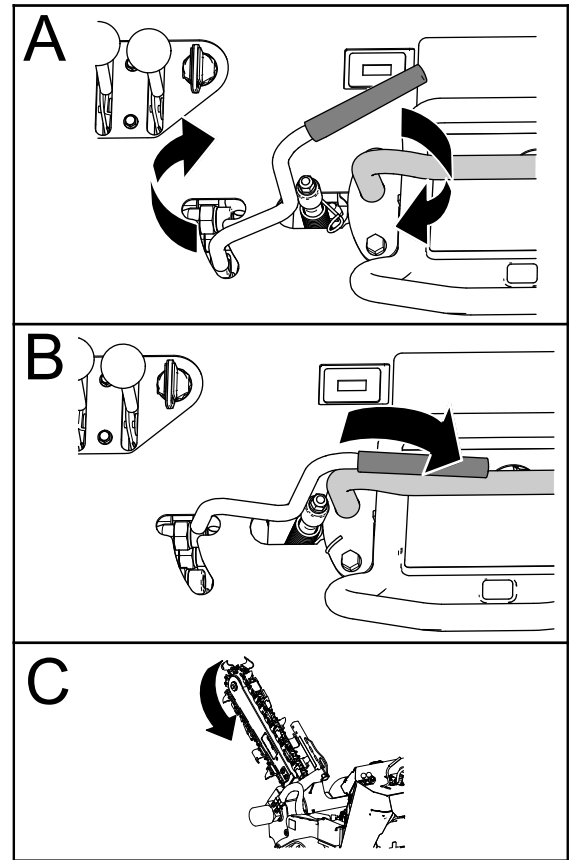

Figure 6
2. Check the rotation of the digging chain (Figure 6).